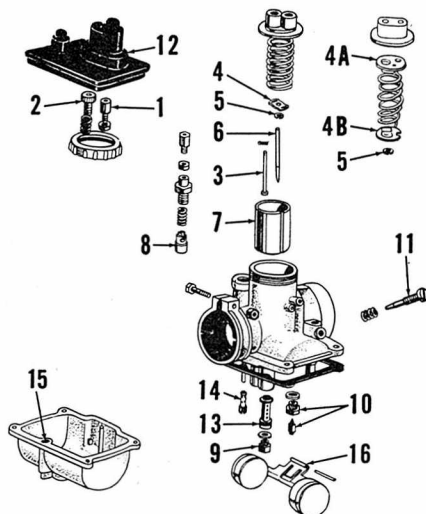

Fig. K3-1—Exploded view of Mikuni VM carburetor. Spring guide (4A) and spring seat (4B) are used on A7 models.
Idle speed should be approximately 1400 RPM and is set by turning the adjusters (2—Fig. K3-1). Make certain that both adjusters are set the same. If correctly set, the throttle slides (7) for both carburetors will be open exactly the same amount at idle speed and the exhaust pressure will be the same for both cylinders. If incorrectly set, one throttle slide will be up (open) more than the other and engine will not idle smoothly at 1400 RPM.
Refer to Fig. K3-1 and the following recommended carburetor specifications.